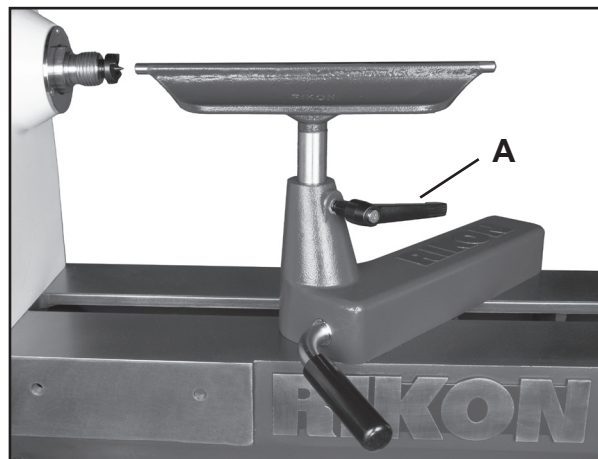

FIG. 8
Install the 12" long PRO Tool Rest (T) into the Tool Rest Base (also called a Banjo) (D). Secure the tool rest's 1" diameter post in the base with the Adjustable Locking Handle. Figure 8, A.